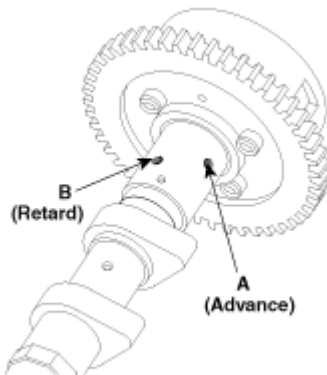

Fig. 29: Identifying CVVT Assembly Retard Hole & Advance Hole
2. Apply vinyl tape to the retard hole except the one indicated by the arrow in **Fig. 29**.